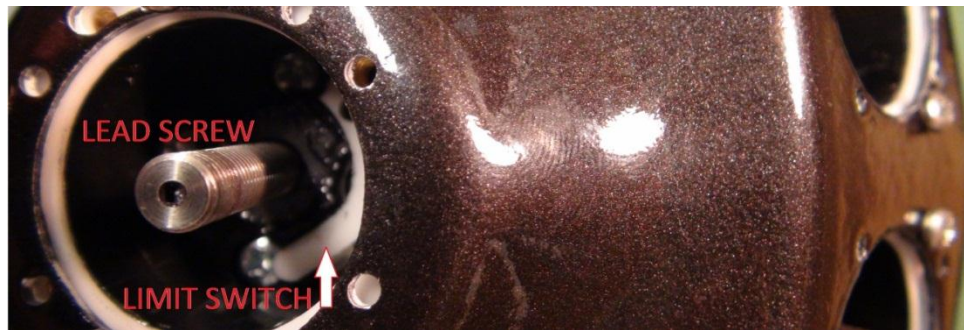

Figure 4 – Location of the limit switch
- 2) Using dry tissue, remove old grease from lead screw and remaining grease on the limit switch located at the bottom of finger motor as shown in Figure 4;
- 2) Using dry tissue, remove old grease from finger motor's lead screw and remaining grease on the limit switch located at the bottom of the finger motor as shown in Figure 4 (p.5);